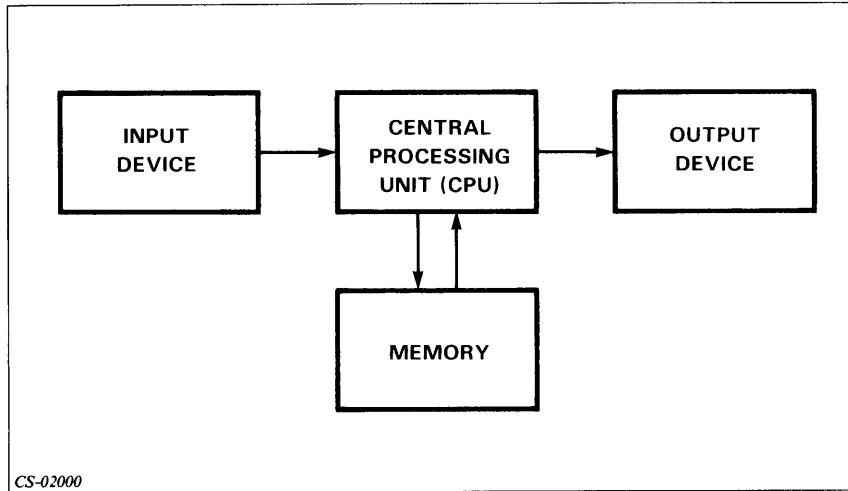

Figure 1.14 Module 1: Quiz Answer
10. Compare your answer to Figure 1.14.